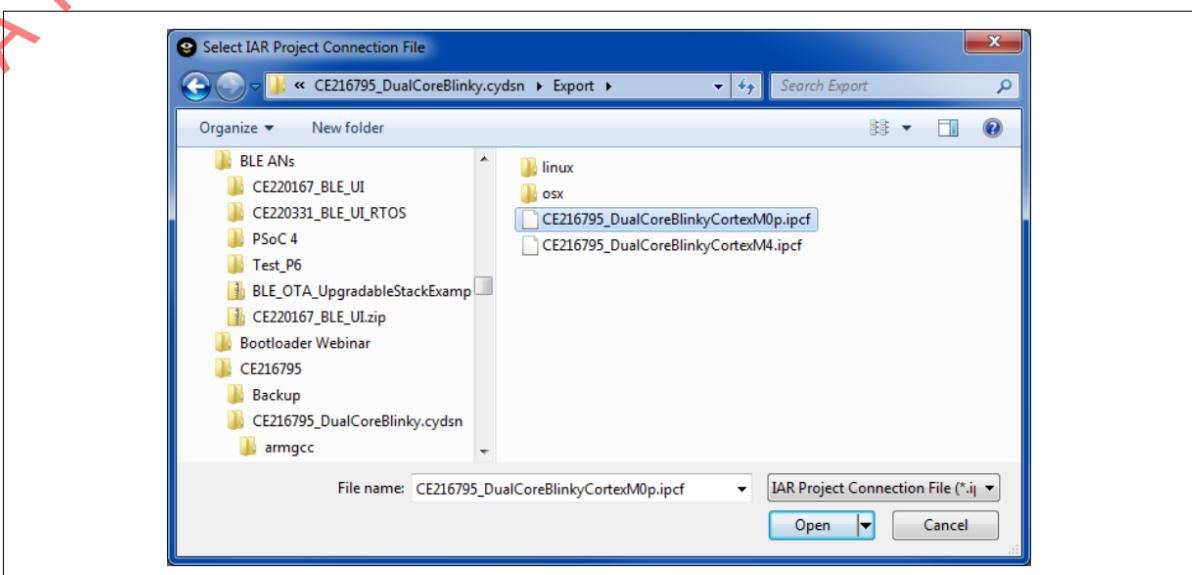

Figure 436 Select IAR project connection file from PSoC™ Creator project export folder
Select **Tools > Options** and make sure that **Enable project connections** is checked. Click **OK**. Then select **Project > Add Project Connection....** In the next dialog, select Connect using **IAR Project Connection**, and click **OK**. Then select the ...CortexM0p.ipcf file, as Figure 436 shows. Click **OK**, and several folders and files are added to the project in the Workspace window
- Select the ...CortexM4.ipcf file; see Figure 436